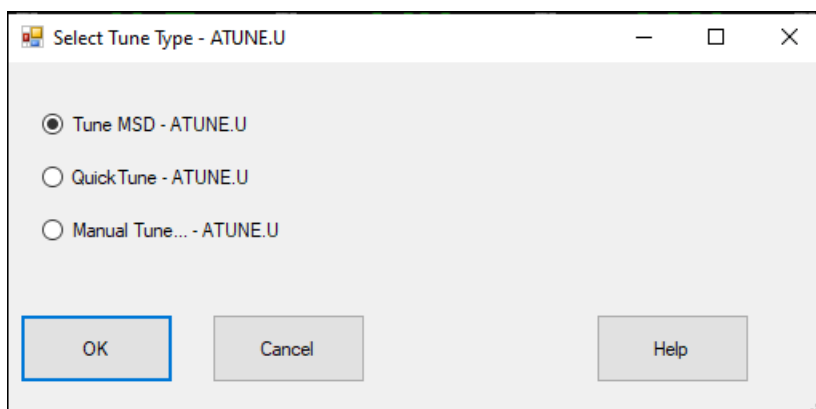

Figure 31 Select tune type dialog
- 4 Click the **MS Tune** icon to display the **Select Tune Type** dialog. (See **Figure 31**.)